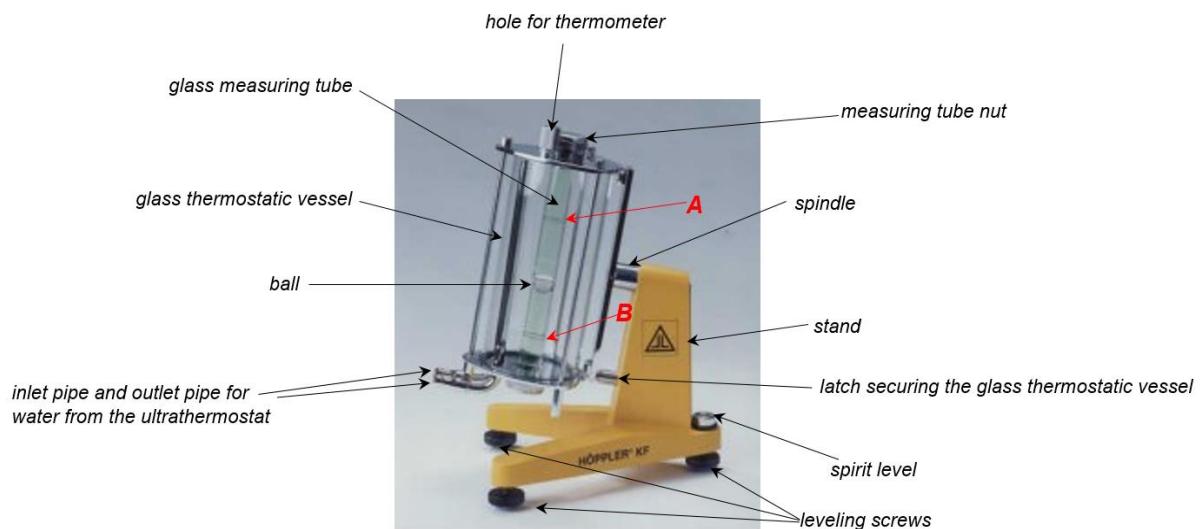

Fig. 1: Höppler ball viscometer. In this measurement, we are interested in the time a ball travels the distance between the marked A and B levels.
1. The formula for calculating the fluid viscosity at different temperatures $\eta(T)$ for a ball falling in the distance between the marked levels A and B (Rys. 1)
3. Level the viscometer using the leveling screws and a spirit level (Fig. 1).